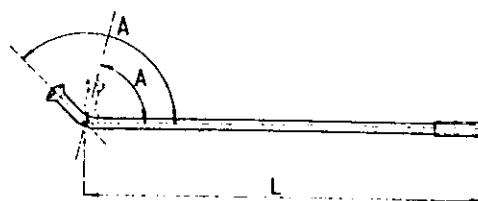

Fig. F10a. Measurement of spoke length.
The length of a spoke (L) is ascertained by measuring from the threaded end to the intersection of the two centre-lines, as shown in Fig. F10a. This method applies, whatever angle (A) may be.